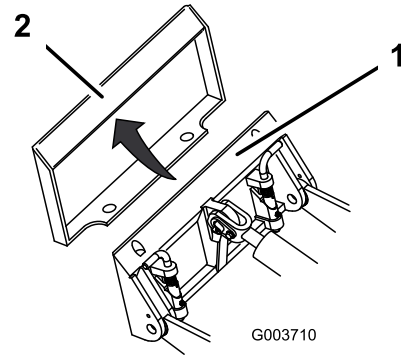

Figure 25
- 4. Position mount plate into the upper lip of the attachment receiver plate (Figure 25).